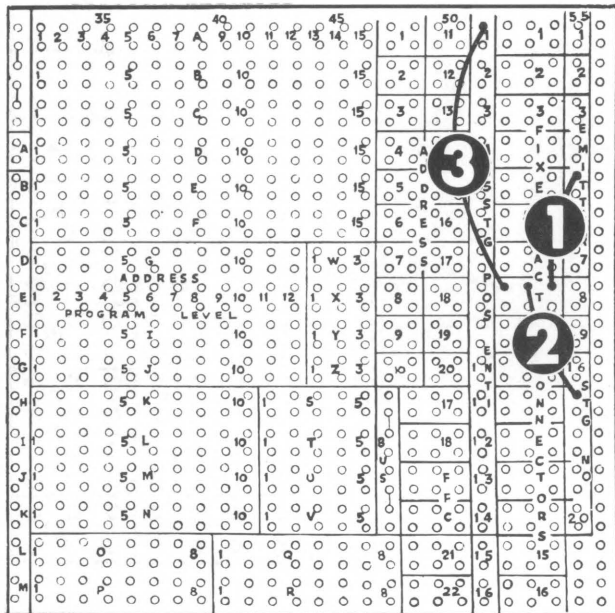

Figure 27. Fixed Factor Wiring Sample.
For example, to wire the digit 5 in the first decimal position of storage 17, the hubs would be connected as follows: E 55 to H 54 ①, K 55 to H 53 ② and A 51 to H 52 ③ (see figure 27).